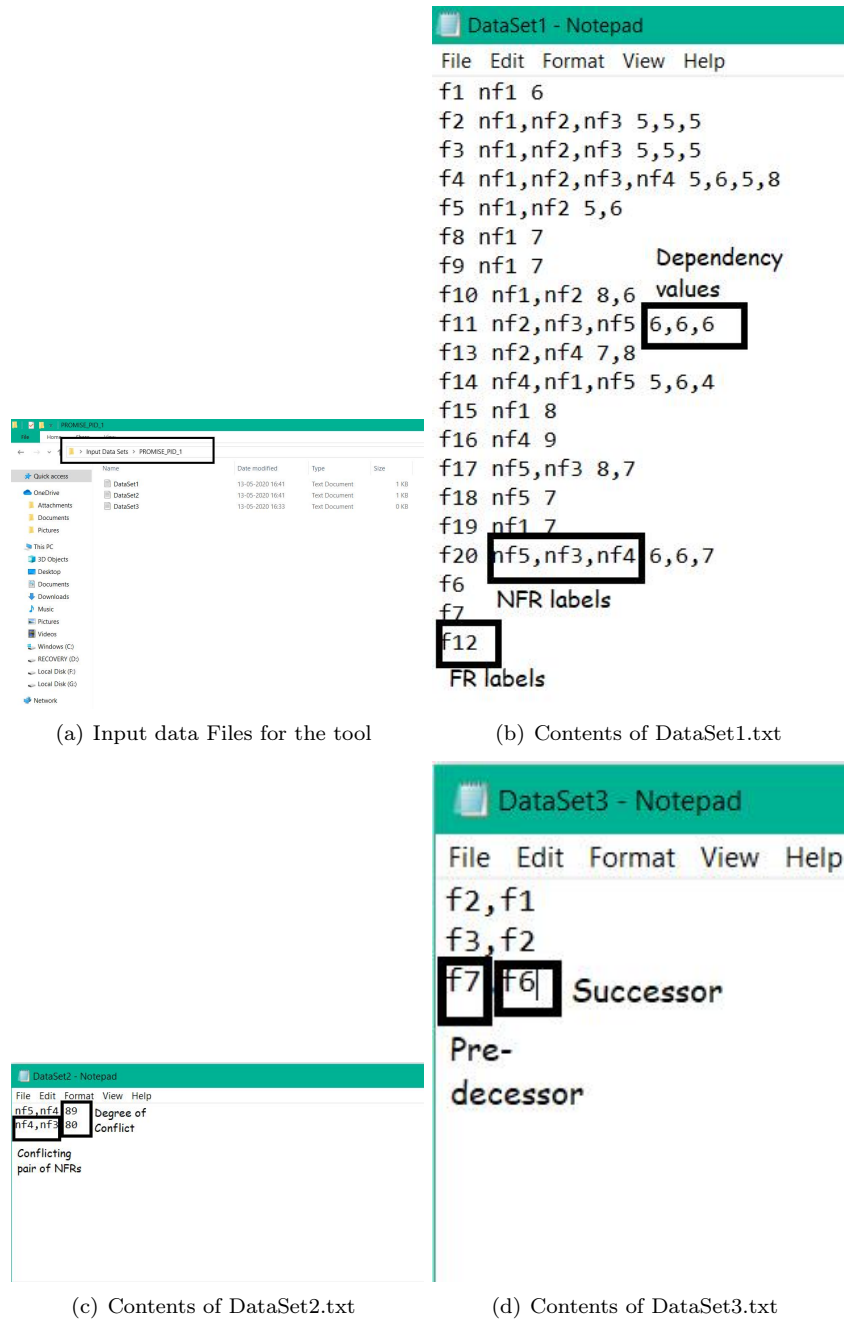

Figure 3: Input Data Sets for the Tool
- In the *Input Data Sets* folder the corresponding input data sets for each of the projects are carefully constructed. There are three text files in each of the project folder - *DataSet1.txt*, *DataSet2.txt* and *DataSet3.txt* (refer to Figure 3(a)). The contents of these three files are as follows:
- (i) *DataSet1.txt* consists of three columns of input. First column stores the set of FRs, second column specifies the NFRs that associate with each FR and the third column provides the respective dependency values (refer to Figure 3(b)). The user can manipulate the dependency values as per choice. The rows with
- (ii) *DataSet2.txt* specifies the NFRs that are in conflict along with the degree of conflict among them (refer to Figure 3(c)). These
- (iii) *DataSet3.txt* specifies the temporal dependencies among FRs (refer to Figure 3(d)). Temporal dependency are specified by separating the FRs with a comma. The FR preceding the comma should temporally precede the one written after the comma.